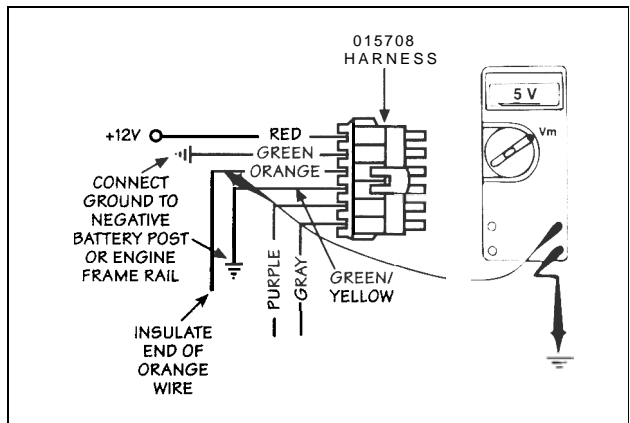

FIG. 1.1.27
**Correction:** Measure the voltage at the ORANGE wire of the control module. With system power ON, the voltage should measure +5 VDC +/- 0.5 VDC (Fig. 1.1.27). If this condition is not present, replace module.